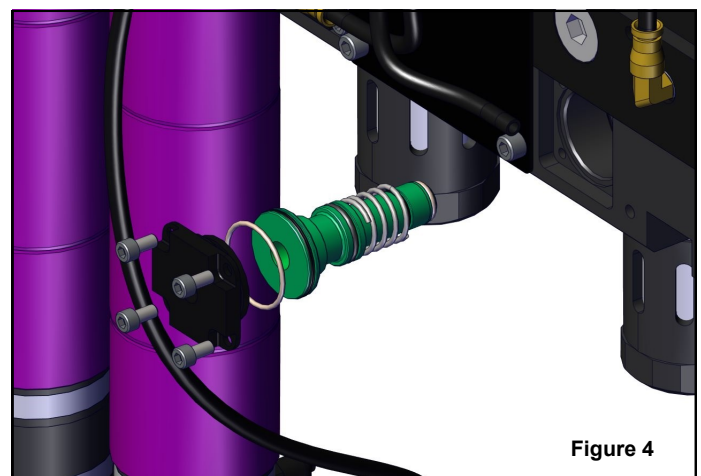

Figure 4
4. Using a 4mm hex key wrench, remove the four socket head cap screws holding the piston cover in place. *Figure 4*
6. Using a finger or a 1/2-13 bolt, remove the piston from the piston bore. Be sure to remove the piston spring. *Figure 4*
12. Using a 4mm hex key wrench, replace the four socket head cap screws holding the piston cover in place. Tighten until snug, then add 1/4 turn. *Figure 4*